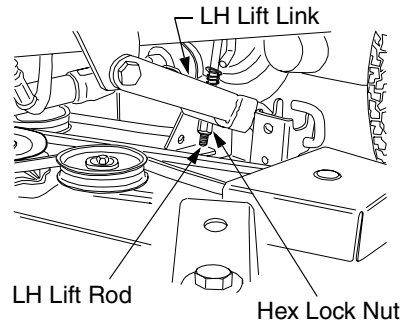

Figure 29
6. Side to side leveling is attained by adjusting the hex lock nut on the bottom of the LH lift rod, below the LH lift link (See Figure 29).